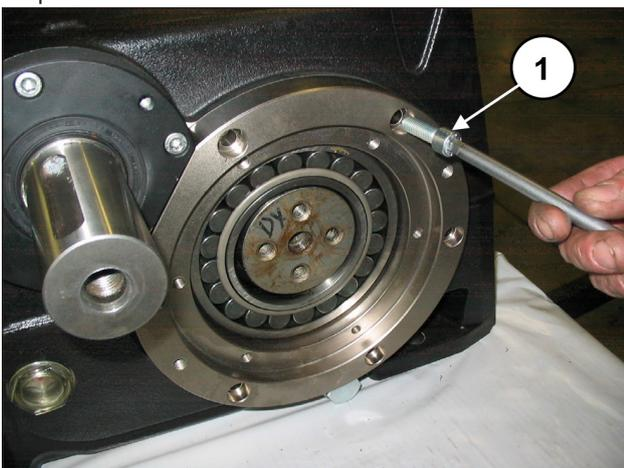

Fig. 75
Fasten the bearing support covers with 6+6 x M10x30 screws (pos. ①, Fig. 75).